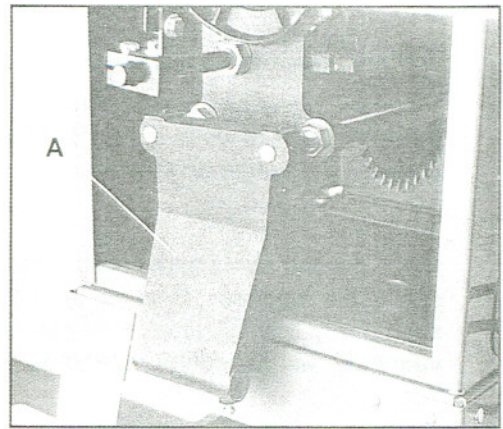
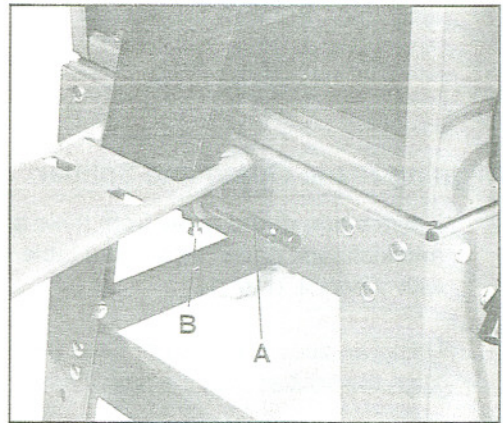

Fig. 19
Fig. 20
1. Place motor bracket (A, Fig. 19) onto two connecting rods and secure by tightening two set screws already installed in the motor bracket.
2. Remove motor plate shaft (A, Fig. 20) from the motor bracket (A, Fig. 19).
4. Insert motor plate shaft (A, Fig. 20) into motor plate and through motor bracket until it passes through motor plate on the opposite side. Make sure that groove on motor plate shaft lines up with hex cap bolt on motor bracket.
5. Tighten hex cap bolt (B, Fig. 20) on motor bracket to secure motor plate shaft.